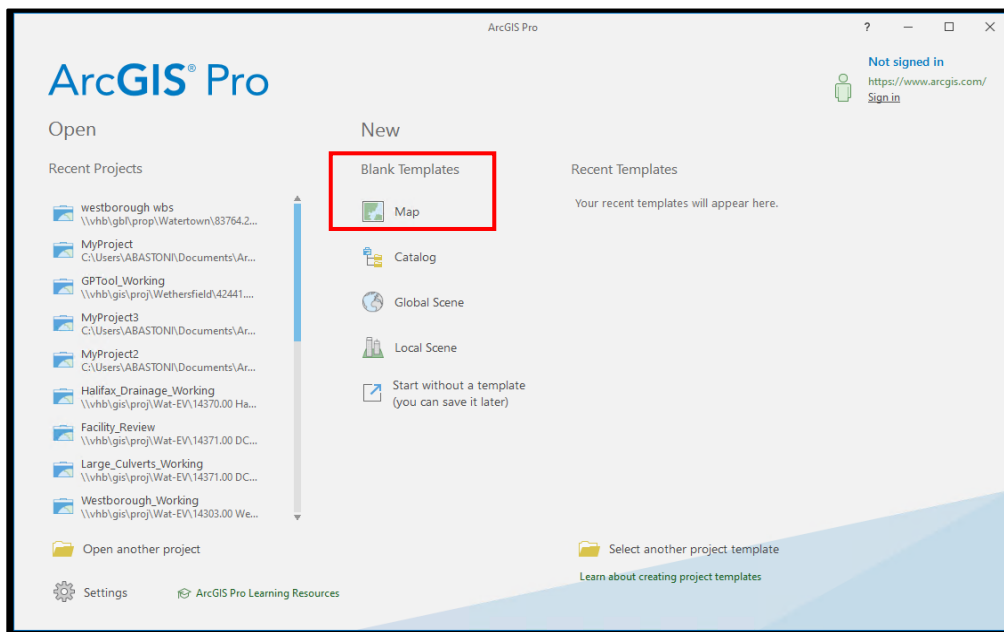

Figure 3
6. Open a Map from the Blank Template (Figure 3). Give your project a name and click “OK”.